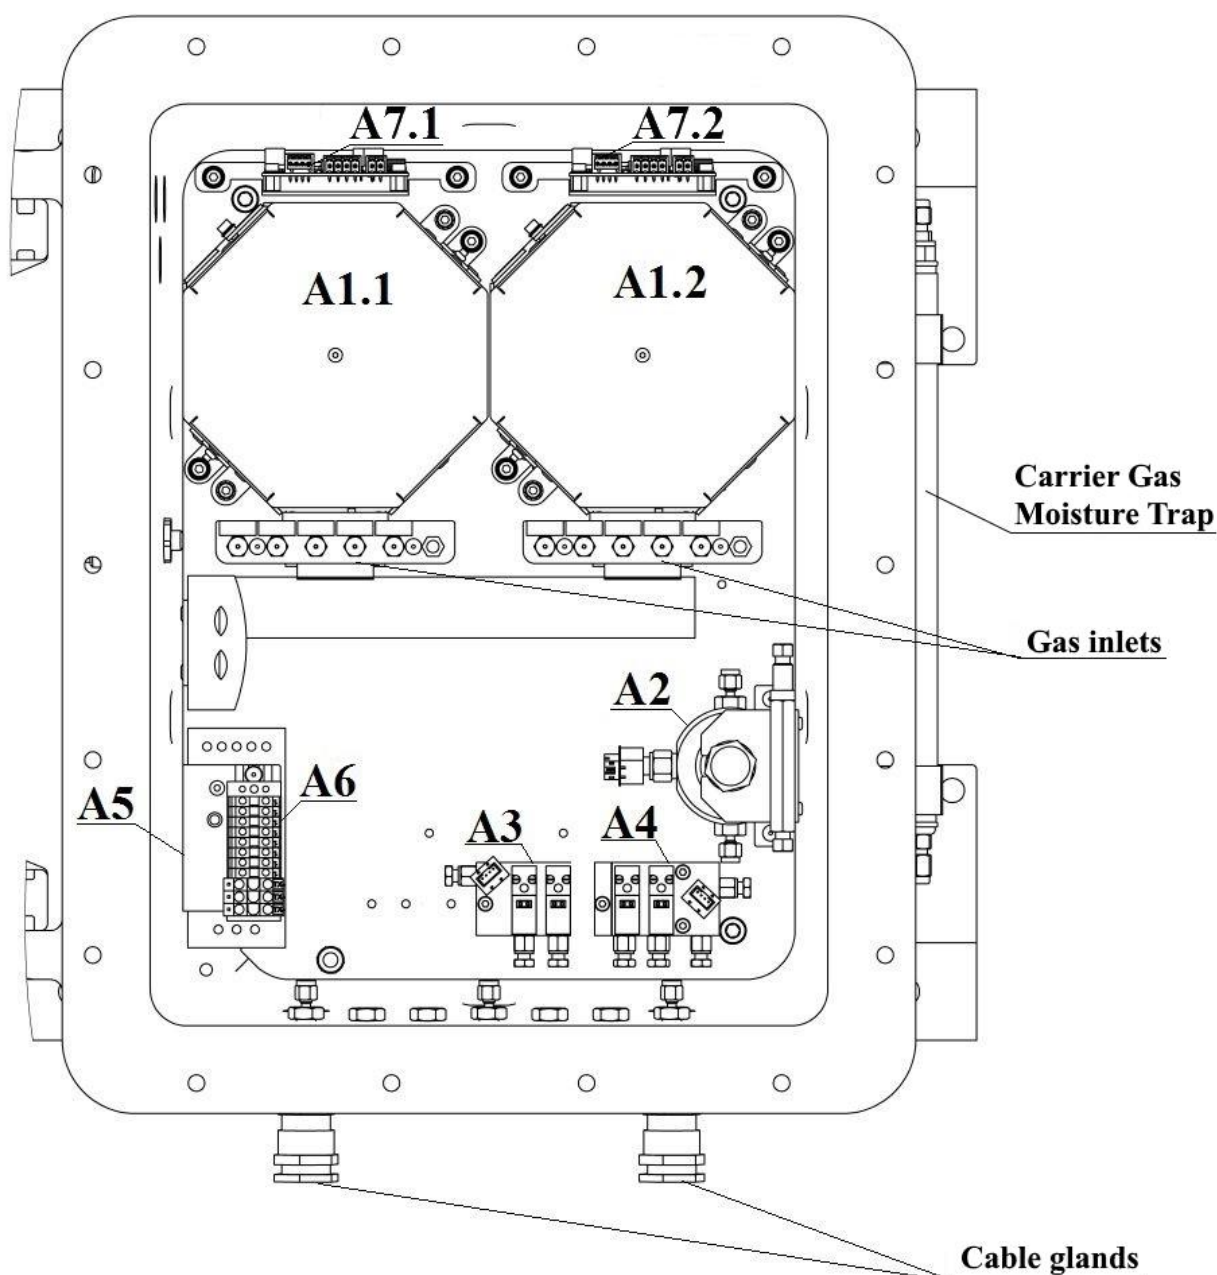
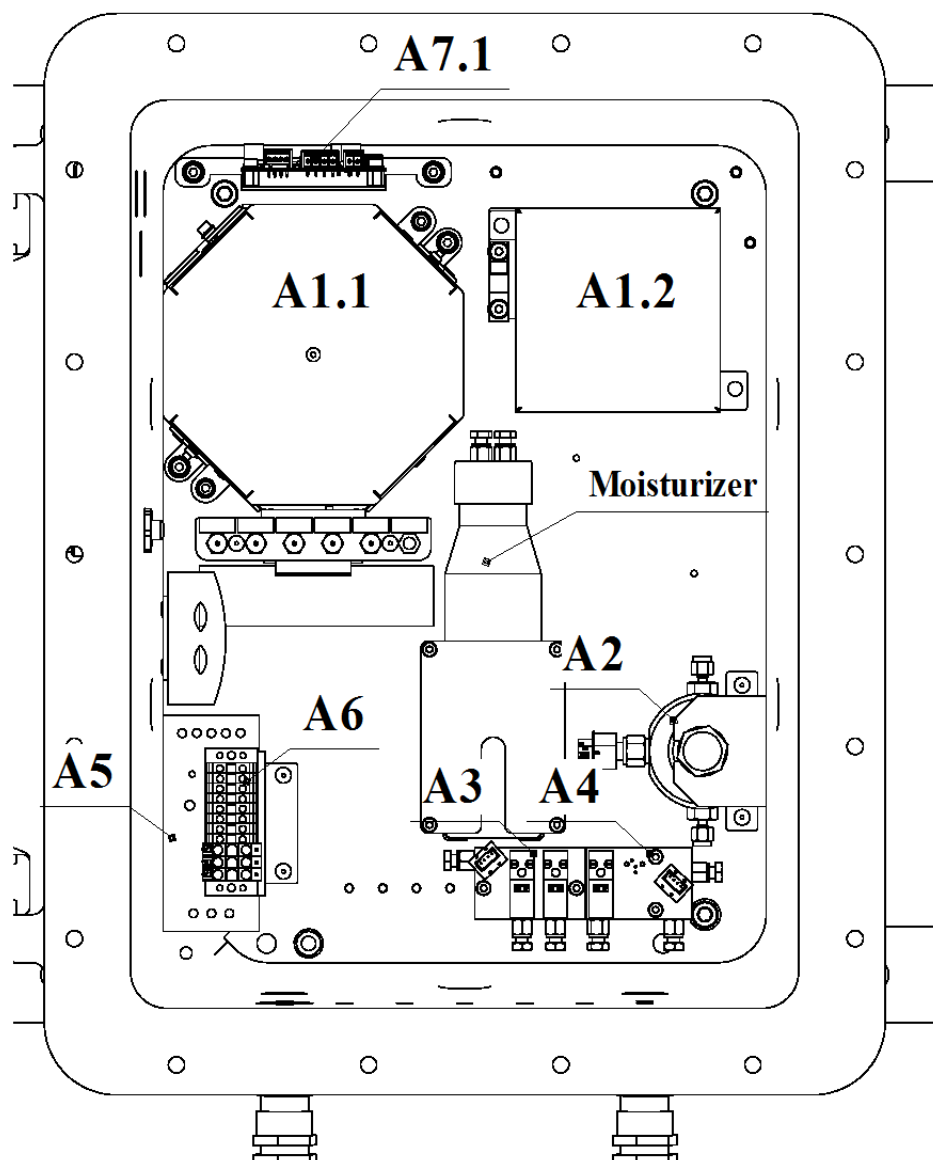

Fig. 4. Internal structure of the chromatograph "MAG" (the cover is not conventionally shown)
Fig. 5. Internal structure of the chromatograph "MAG" with ECD
The internal structure of the chromatograph with two analytical channels with the TCD and CCD detectors is shown in Fig. 4
The chromatograph "MAG" includes the following functional units (Fig. 4):
- **Heated gas inlets.** The heated flame arresters are installed optionally (not shown in Fig. 4) if it is necessary to maintain set temperature of the gas inlets, for example, to prevent condensation of the sample components especially when operating the chromatograph at low ambient temperatures.
If the chromatograph is equipped with the electrochemical detector (ECD), it is placed outside the analytical channel in a separate thermostatted zone, **A1.2**, Fig. 5.
- **A7.1, A7.2.** Detector control boards (see also Fig. 4 and Fig. 5). The number of boards of this type is determined by the number of detectors used in the chromatograph.
Inside the coil there is a thermal conductivity detector, TCD or a catalytic combustion detector, CCD (2) with small internal volume designed for detection of the sample components coming out from the chromatograph column (more detailed about the operating principle of the TCD see p. 1.5.2, CCD – point 1.5.4). In chromatograph modifications with the electrochemical detector, it is placed outside the analytical channel in a separate heated zone (see Fig. 5). At the same time, the analytical channel includes only the column system and the diaphragm valve.